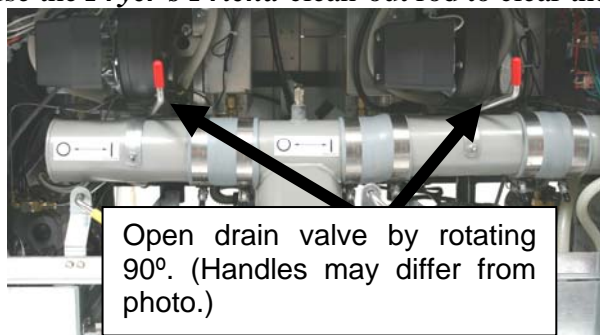

Figure 7
3. Drain the frypot into the filter pan by rotating the drain valve handle 90° (see Figure 7). If necessary, use the *Fryer's Friend* clean-out rod to clear the drain from **inside** the frypot.